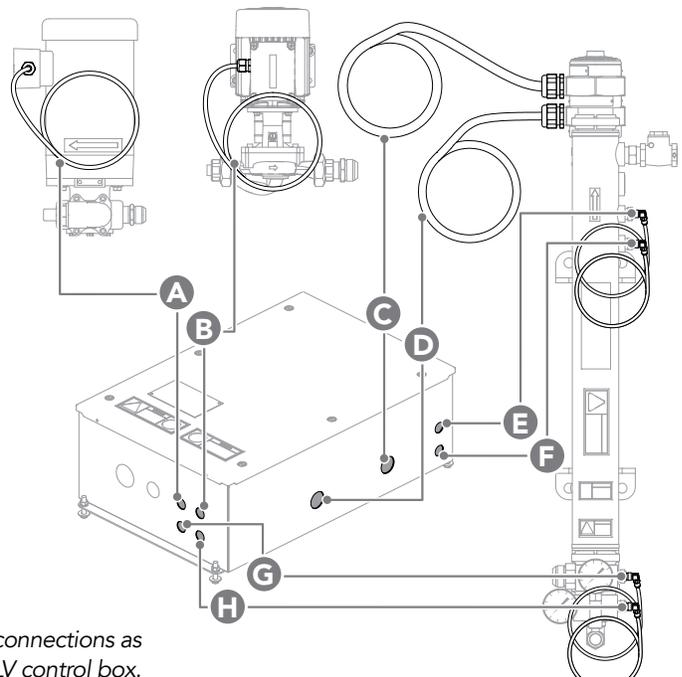

Figure 9. Pump, element and RTD connections as shown in the Modular DLV control box.
3. Mark each RTD cable end with the RTD location. See Fig. 9 on following page.
1. Route pump motor cables and heating tank assembly cables to control box. Using supplied strain relief, connect all cables to control box. See *Table 1* and *Fig. 9*.